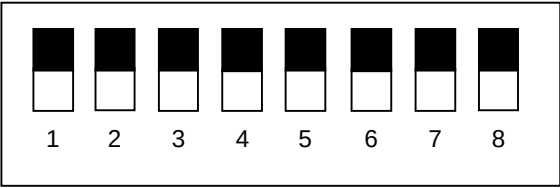

Figure 6.1.2 DIP switches (Being set for Standard setting)
(2) Perform as the procedure shown below.
(3) Set the DIP switch No.4 as shown in Figure 6.1.2.